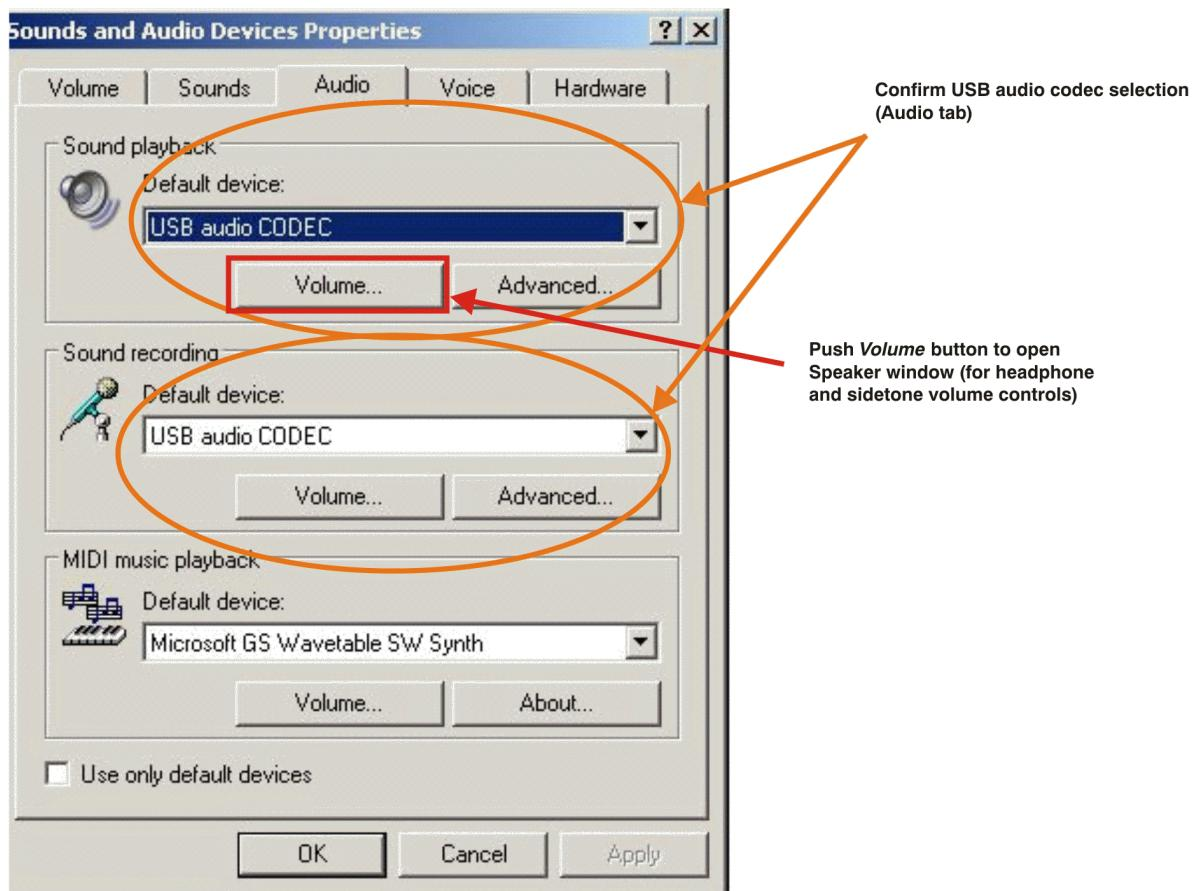
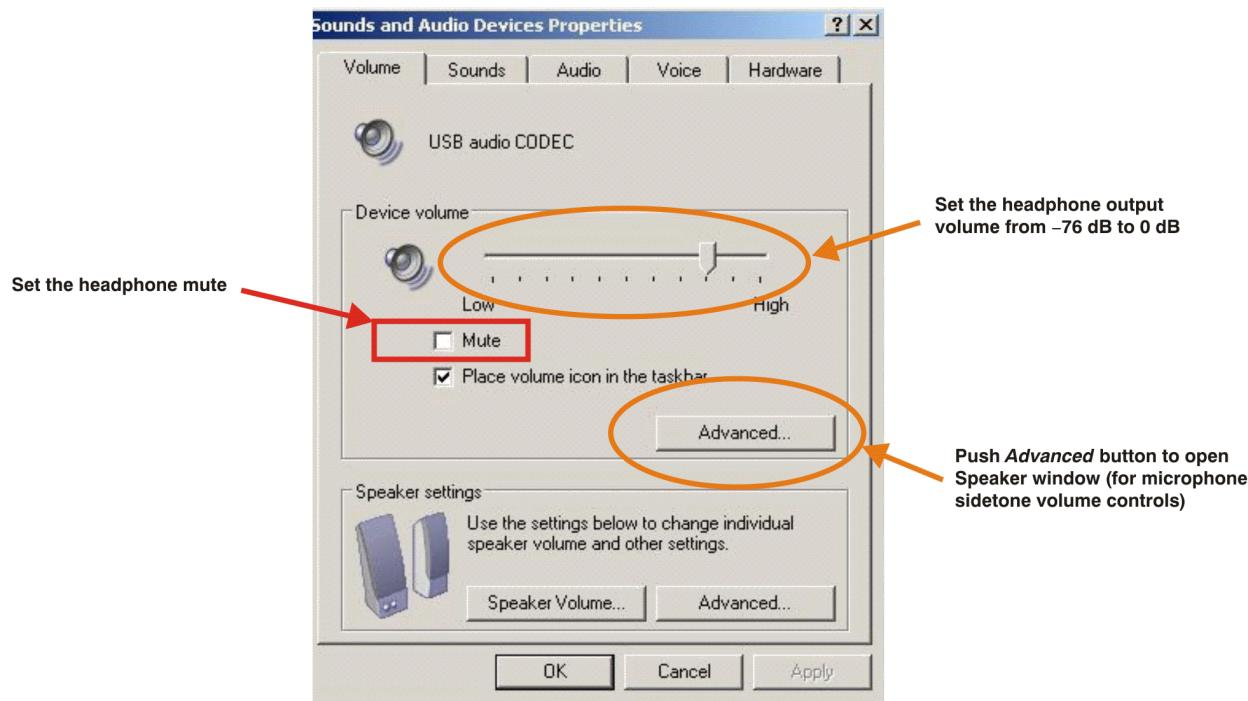

Figure 3-7. Sound and Audio Devices Properties—Audio Tab (Windows XP)
Figure 3-8. Sound and Audio Devices Properties—Volume Tab (Windows XP)
- Step 3. Select the *Audio* tab and confirm the USB audio codec appearance as the default playback and recording device, as shown in Figure 3-7.
- Step 2. Open the *Sound and Audio Devices Properties* dialog box and select the *Volume* tab, as Figure 3-8 illustrates. Alternatively, open the *Speakers* window from the *Volume* selection box (on the *Audio* tab) or the *Advanced* selection box (on the *Volume* tab); see Figure 3-7.
1. Open the Speakers options from the Volume selection box (on the Audio tab) or the Advanced selection box (on the Volume tab); see Figure 3-8. Alternatively, double-click the speaker icon (if displayed) in the lower right-hand area of the Windows taskbar (at the bottom of the screen); see Figure 3-7.